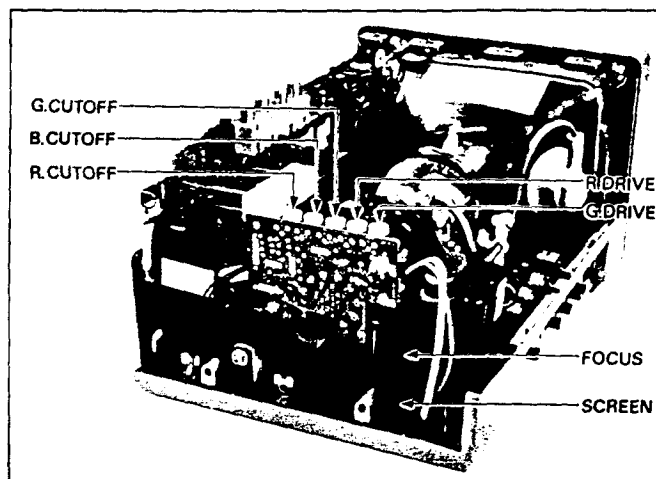

Fig. 6-3
3. Turn the green cutoff VR (R711) fully clockwise and the red and blue cutoff VRs (R712, R710) fully counter-clockwise. (Fig. 6-3)
Adjust the screen VR (Fig. 6-3) so that the vertical green band becomes easy to see.
2. Turn the red and blue cutoff VRs fully clockwise and the green cutoff VR fully counter-clockwise (Fig. 6-3).
Adjust the screen VR (Fig. 6-3) for an easily seen image.